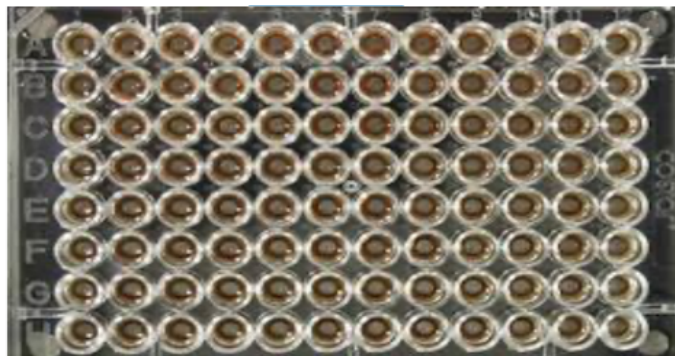

Figure 5: Extraction plate during wash step on magnetic plate.
10. After the 5 min incubation, remove as much of the 400µL of the supernatant as possible. Be careful not to disturb or aspirate the beads. See Figure 5.